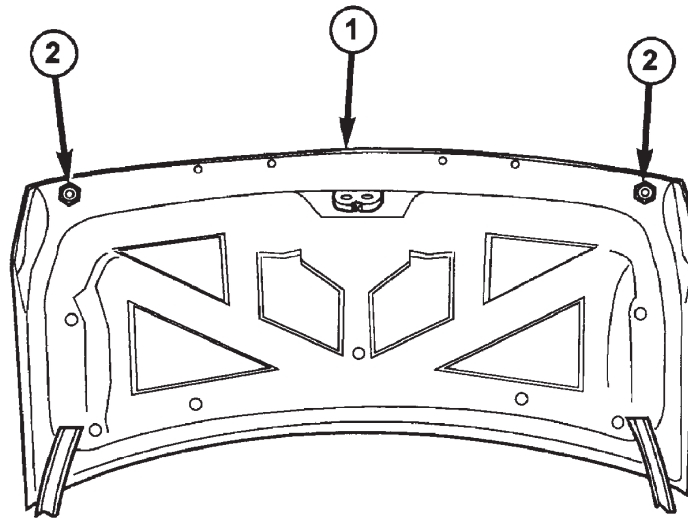

FIGURE 1
1. Open the decklid, mark each bumper and turn each overslam bumper 1/4 turn clockwise (Figure 1 & 2).